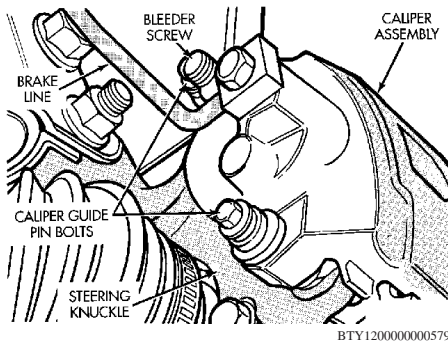

Fig. 6 Caliper guide pin bolt removal
- g. Remove 2 guide pin bolts mounting caliper assembly to steering knuckle, **Fig. 6**.